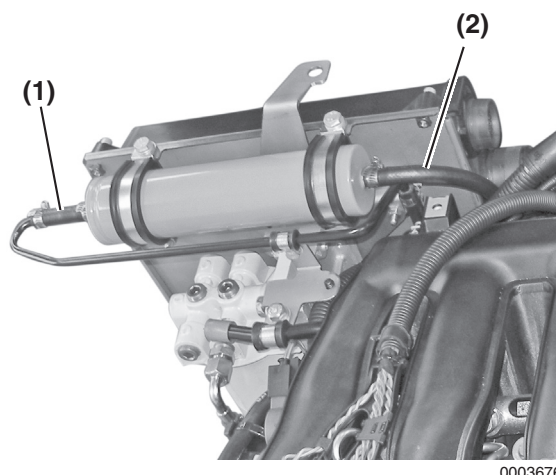

Figure 6-5
2. Disconnect the fuel hose from the fuel fine filter inlet (**Figure 6-5, (1)**).
6. Repeat procedure at the outlet end of the fuel fine filter (**Figure 6-5, (2)**).